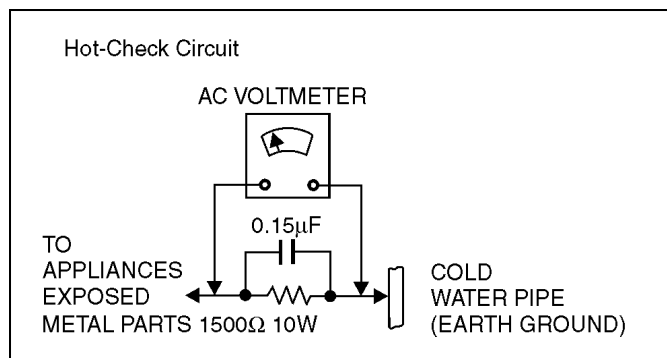

Figure 1
2. Connect a $1.5k\Omega$, 10 watts resistor, in parallel with a $0.15\mu\text{F}$ capacitors, between each exposed metallic part on the set and a good earth ground such as a water pipe, as shown in Figure 1.